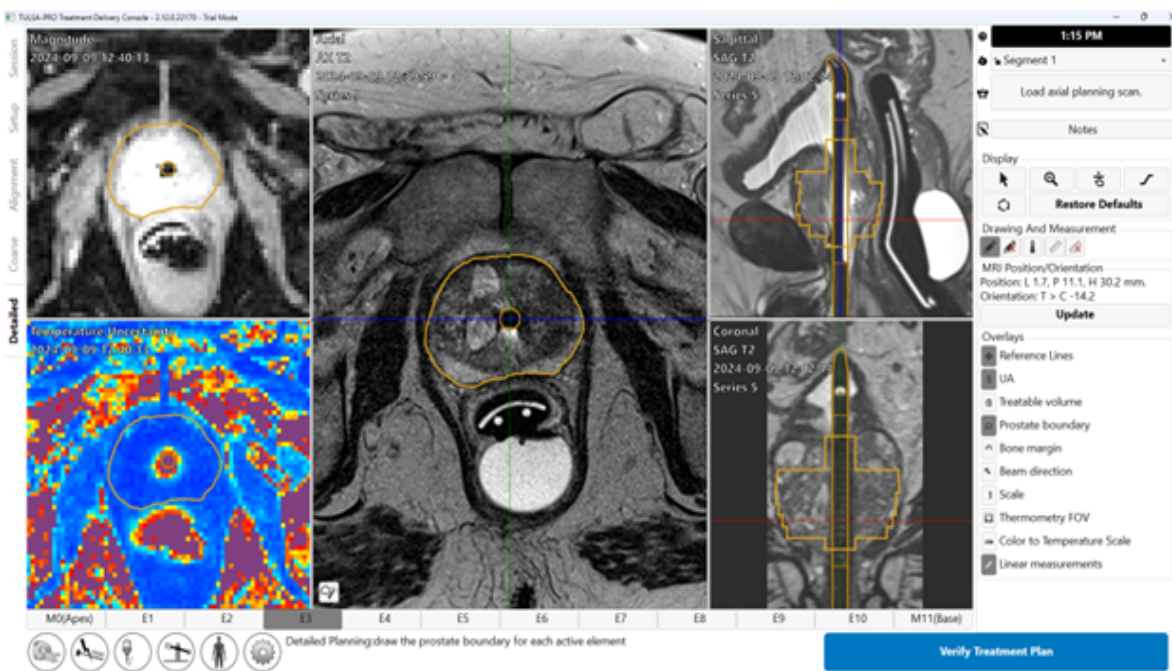

Figure 40: Detailed Planning after drawing boundaries
- Draw or edit the boundary to outline the tissue to be ablated on each slice based on the corresponding AX T2 and THERM magnitude images (*Figure 40*). Tools to customize the boundary are described in the following *mpMRI Vision*, *Treatment Arc*, *TULSA-AI Volume Reduction (VR)*, and *Contouring Assistant*. You can select individual slices by clicking on the numbered tab at the